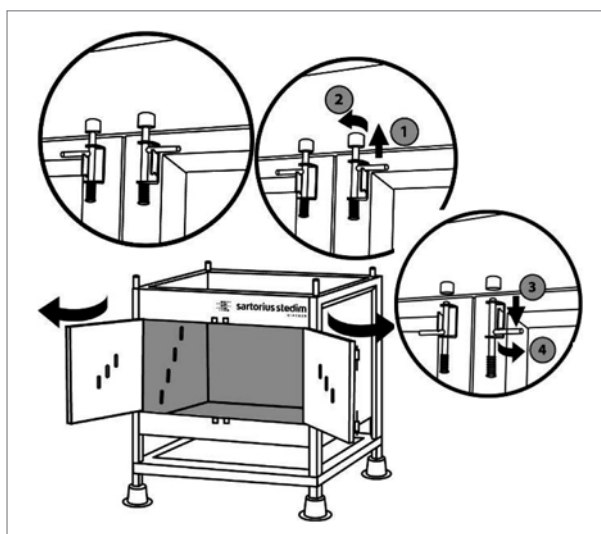

Fig. 6: Preparation of the Palletank®
- ▷ the Palletank® for In-process Fluid Handling, open the hinged front doors by removing the four locking systems (see Fig. 6)